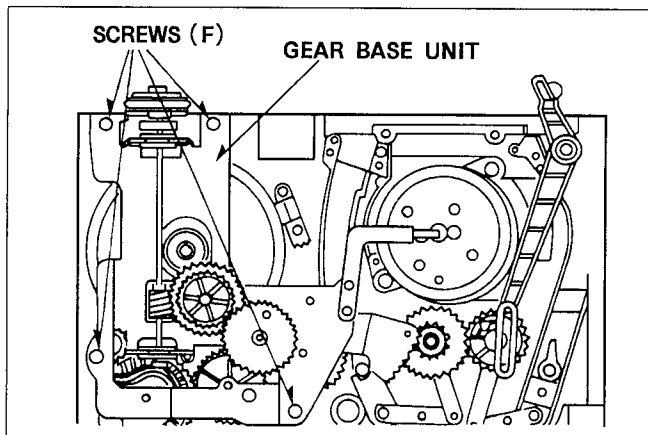

Figure M49
1. Install the Gear Base Unit and screw 4 screws (F) as shown in Figure M49.